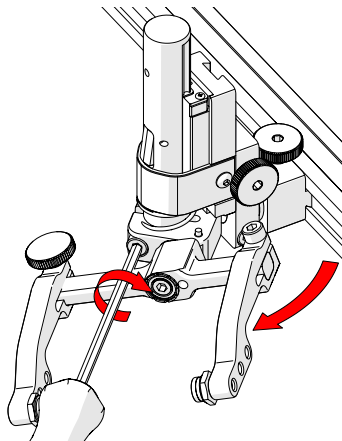

Fig. 43 - Rotate and tighten
3. Tighten the transverse adjustment screw (*Fig. 43*).